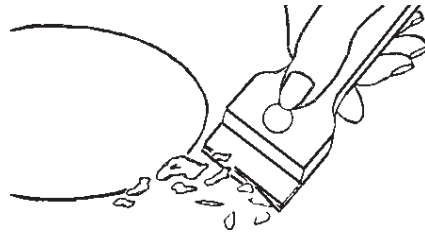

Fig.3
N.B. - When one makes use of heating elements, we advise receptacles with flat bottom (Fig. 3) having same diameter or lightly higher than that of the hot area.
Maintenance (Fig. 3)